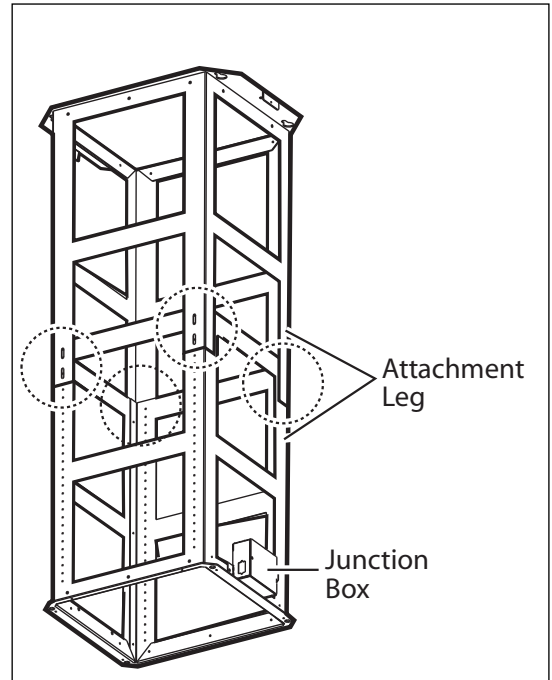

FIG.3
1. Adjust chimney mounting structure to  $E + 3/8''$  dimension as determined in installation height calculation on page 7. Use 2 screws per attachment leg, see Fig. 3.